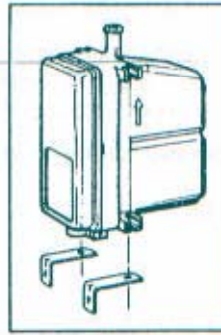

Figure 6 - Bottom Mount
1.2.1.4 The heater has a unique multi-point mounting system that accommodates different applications. Figures 6 through 8 illustrate three possible mounting configurations. Select a mounting surface that is smooth and free of fasteners. Secure the heater in the selected location using the bolts, nuts, and lock washers provided.